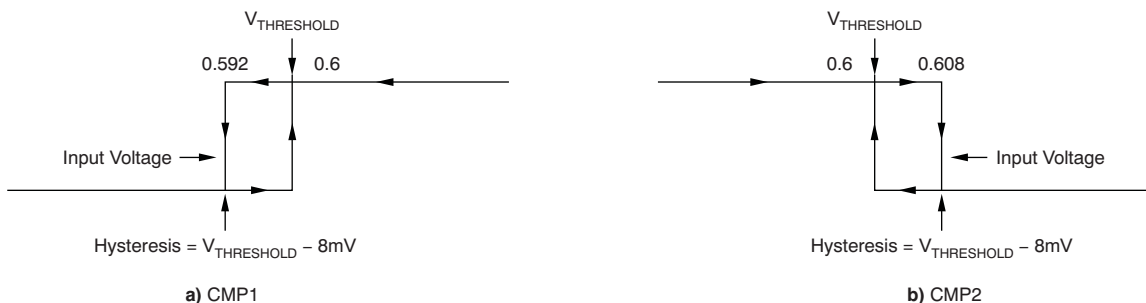

Figure 1. Comparator Hysteresis
- (1) Hysteresis refers to the threshold (the threshold specification applies to a rising edge of a noninverting input) of a falling edge on the noninverting input of the comparator; refer to Figure 1.
- (2) Specified by design; not production tested.
- (3) See the Comparator Maximum Input Voltage Range section.
- (4) The comparator response time specified is the interval between the input step function and the instant when the output crosses 1.4 V .
- (5) The CMP1 RESET input has an internal $2\text{ M}\Omega$ (typical) pull-down. Leaving the CMP1 RESET open results in a LOW state, with transparent comparator operation.
- (6) The Comparator 2 delay applies to both rising and falling edges of the comparator output.